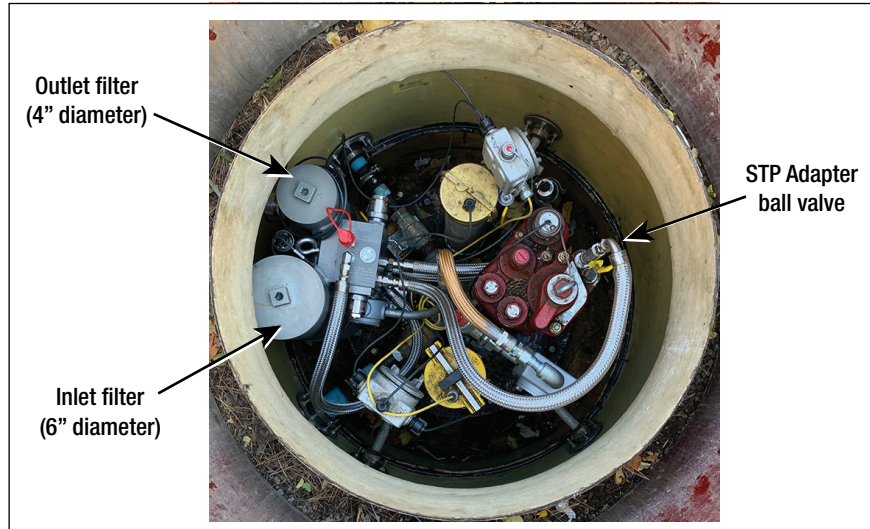

Figure 19. HydrX Sump
2. Open the STP Adapter ball valve (see Figure 19). Turn power back On.